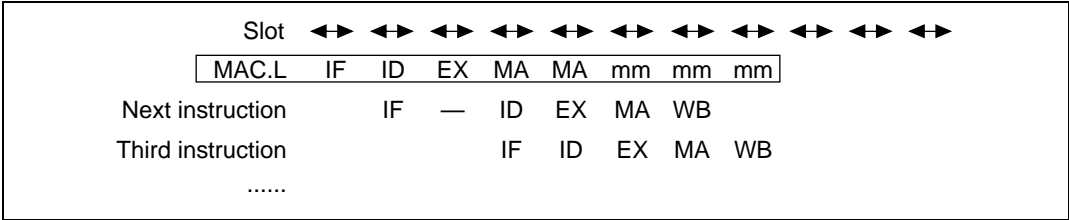

Figure 10.30 Multiply/Accumulate Instruction Pipeline
The pipeline has eight stages*: IF, ID, EX, MA, MA, mm, mm, and mm (figure 10.30). The second MA reads the memory and accesses the multiplier. The mm indicates that the multiplier is operating. The mm operates for three cycles after the final MA ends, regardless of slot. The ID of the instruction after the MAC.L instruction is stalled for one slot. The two MAs of the MAC.L instruction, when they contend with IF, split the slots as described in section 10.2.1, Contention between Instruction Fetch (IF) and Memory Access (MA).